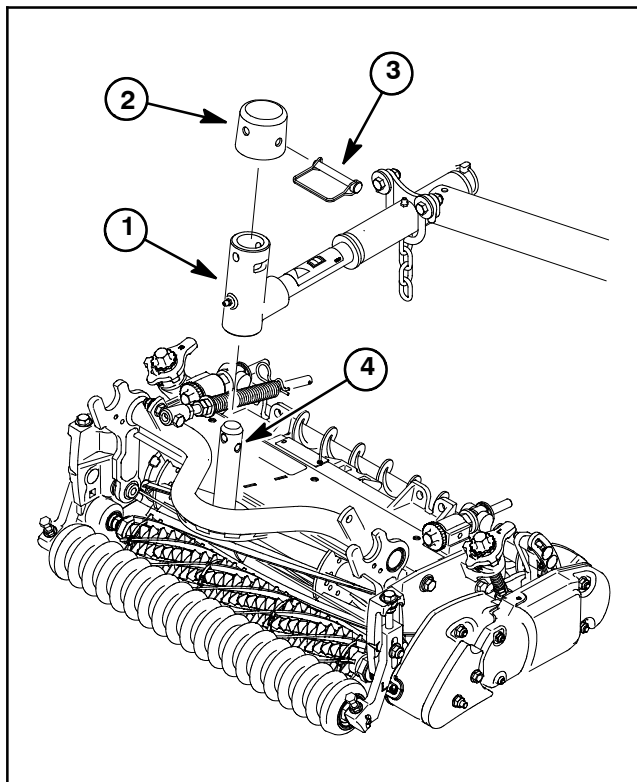

Figure 4
5. Remove cutting unit from pivot yoke (Fig. 4):
1. Lower all the lift arms completely. Make sure the snapper pin and cap are removed from the lift arm pivot yoke (Fig. 4).